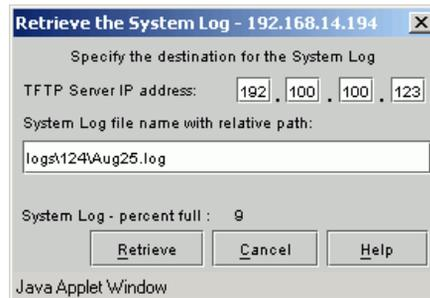

Figure 7-6 Retrieve the System Log Dialog Box
1. Select *File>System Log>Retrieve* to display the *Retrieve System Log* dialog box (Figure 7-6 on page 7-14).